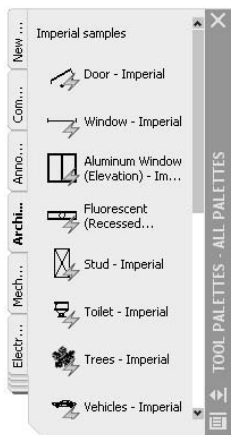

FIGURE C.2: The Architectural tab of the tool palettes
2. Click the Tool Palettes Window button on the Standard toolbar to display the palettes. Yours may appear differently. They can be docked, floating, or hidden behind the palette title bar. The one shown in Figure C.2 is docked.